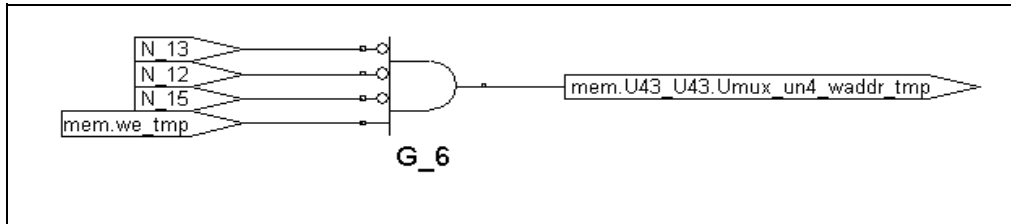

Figure 13: Gate-level view of Level 3, read/write address compare (after pushing down into LUT4_002 G_6).
- Level 3 in in the above figure shows the LUT4_002. This stage produces the logical AND output which controls the select line for the MUX in Stage 3 as shown in the figure Figure 13: Gate-level view of Level 3, read/write address compare \(after pushing down into LUT4_002 G_6\). on page 16.